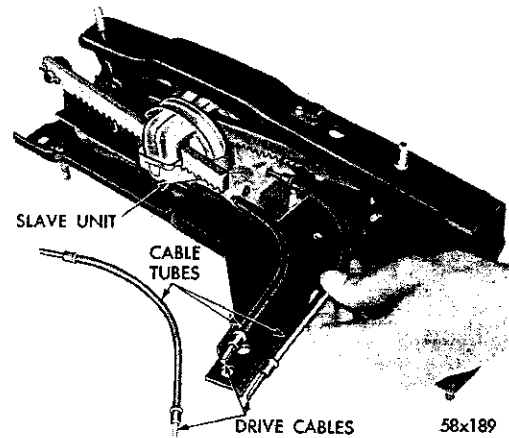

Fig. 130—Installing Left Cable Tubes in Slave Unit
(1) Place the three left cable tubes into the left slave unit (Fig. 130).
(2) With the shortest tube on the inside and longest on the outside, install the flexible cables in the tubes. Make sure the cables seat in the slave unit.
(3) Position the drive unit on the left side tubes. Make sure the flexible cables seat in the slot in the drive unit.
(4) Bolt the drive unit to the guide bracket.
(5) Place the right side flexible cables in the right side tubes.
(6) Position the left guide and drive assembly on